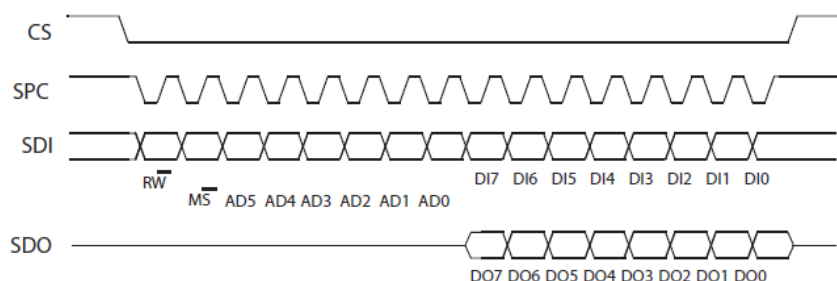

Figure 3: LSM330 SPI Timing Diagram
3. Now you need to use your `spiWrite()` function to write two bytes of data to the LSM330. See the SPI timing diagram in Figure 3.